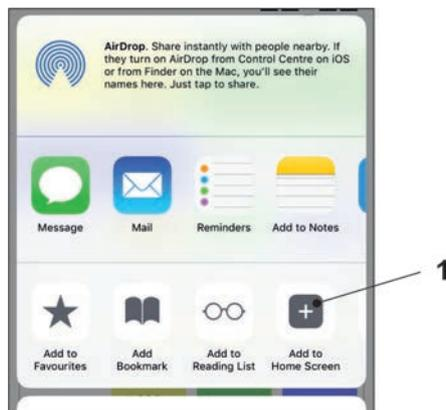

Fig. 26-15 To Home screen
9. Select "To Home screen" (Fig. 26-15 Pos. 1).